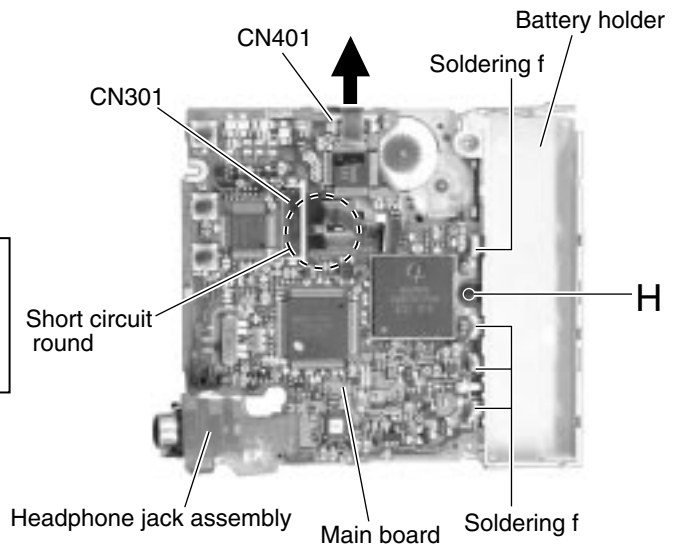

Fig.8
**■ Removing the main board and the battery holder (See Fig.8 and 9)**